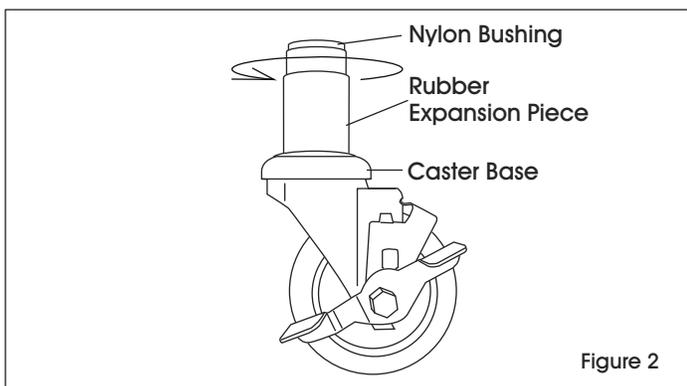

Figure 2
2. Hold castor base and rotate nylon bushing clockwise. This will cause the rubber piece to expand. (See Figure 2)